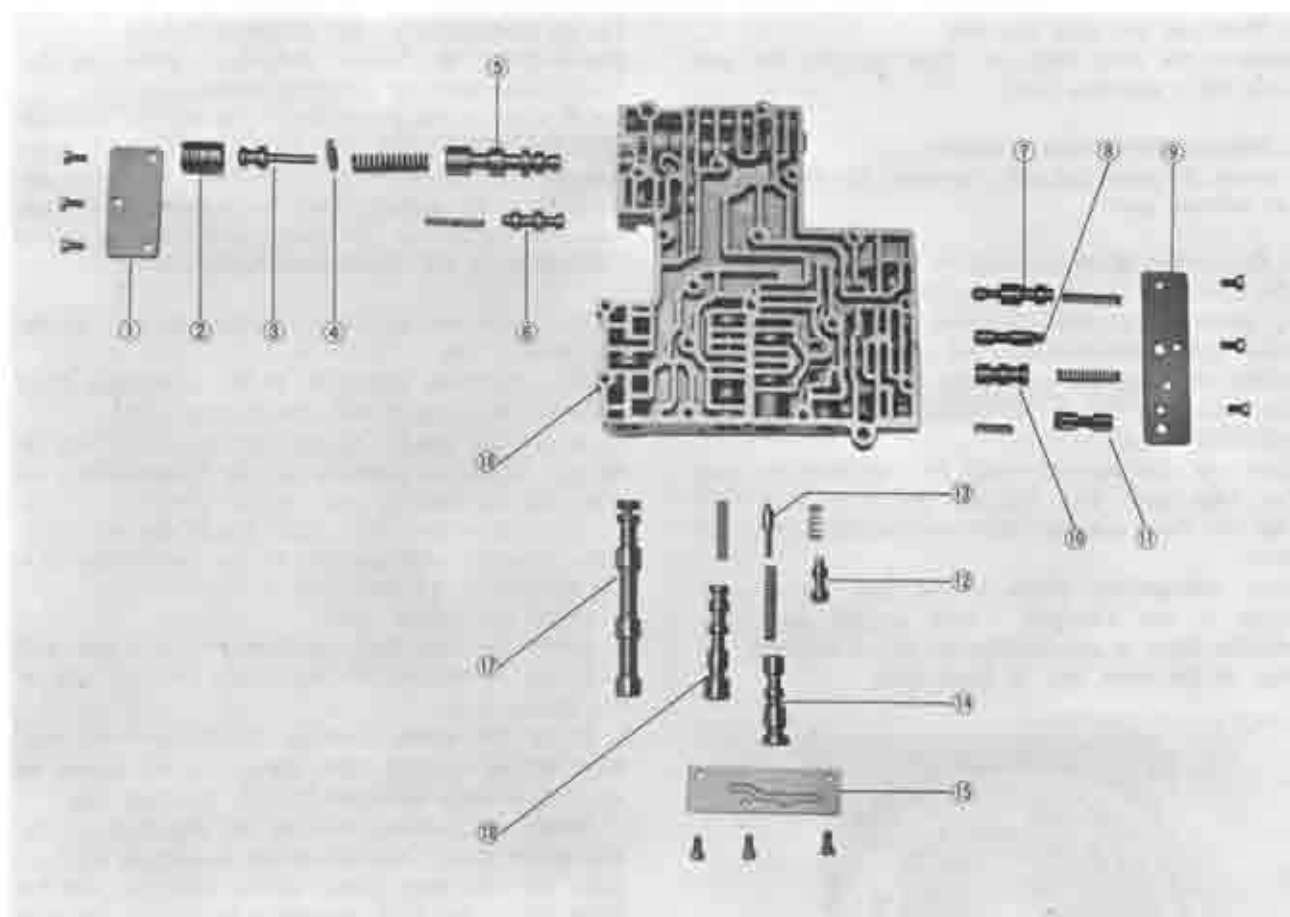

Fig. 7A-43 Component parts of control valve
- a. Install small valves and springs by referring to the components parts of control valve Fig. 7A-43.